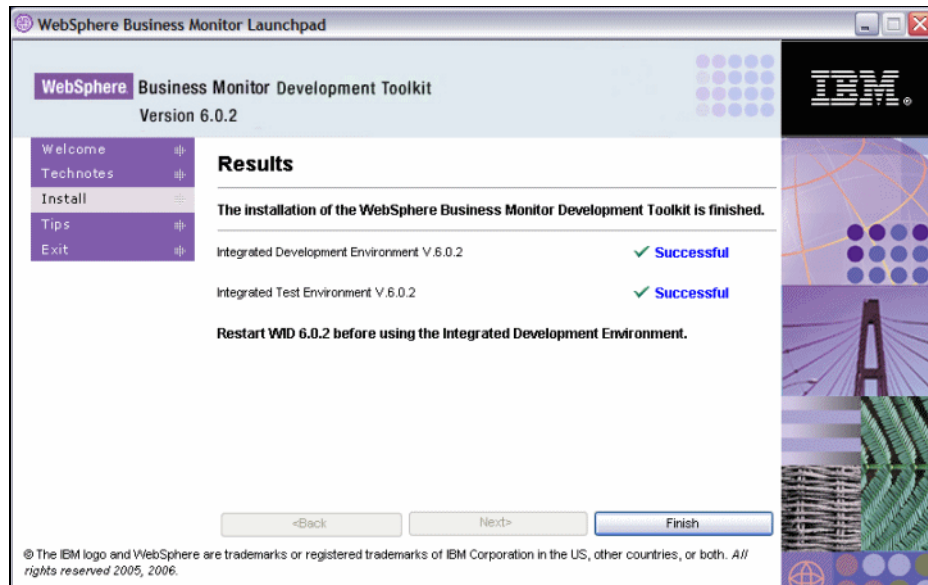

Figure A-14 Monitor Development Toolkit: Installation complete
- ▶ When the installation completes successfully, you will see confirmation of this (Figure A-14). Click *Finish* and then click *Yes* to close the Launchpad.